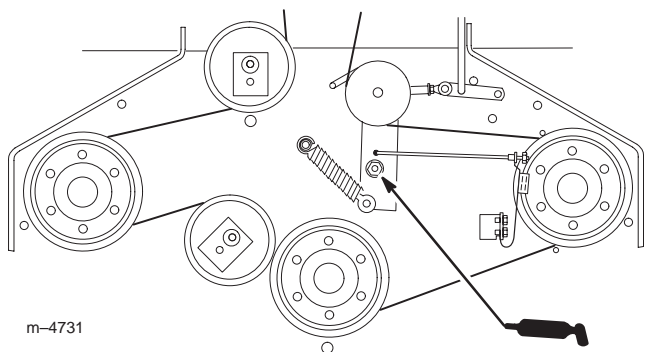

Figure 42
3. Lubricate the blade belt idler arm pivot. (Fig. 42). Lubricate every 50 hours.